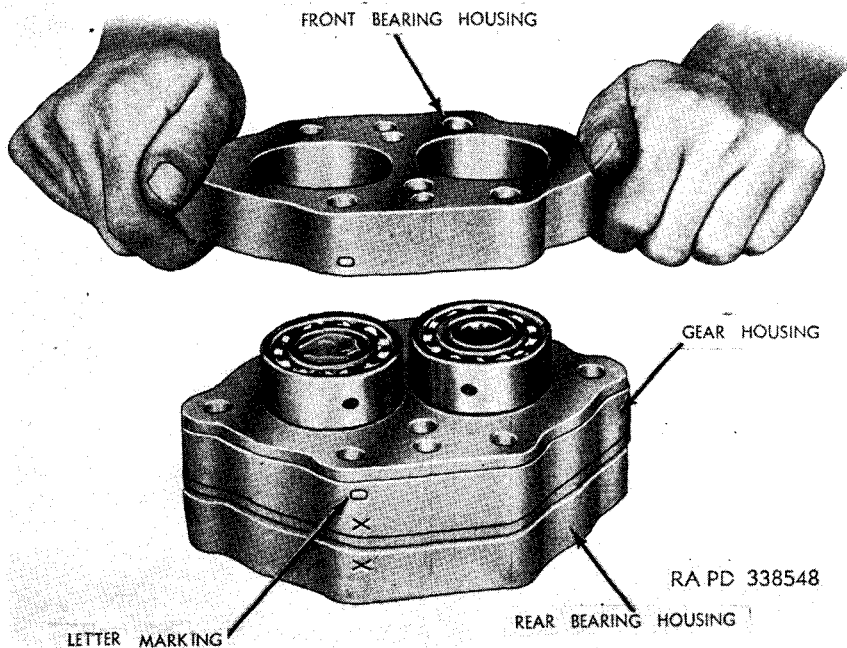

Figure 71. Installing front bearing housing on pump assembly.
Note. This housing has a letter stamped on it near the edge or face of the housing (fig. 71).
d. INSTALL GEAR HOUSING. Turn assembly over and place gear housing over the gears with the correct letter matching and lining up with the letter on the rear bearing housing (fig. 71).